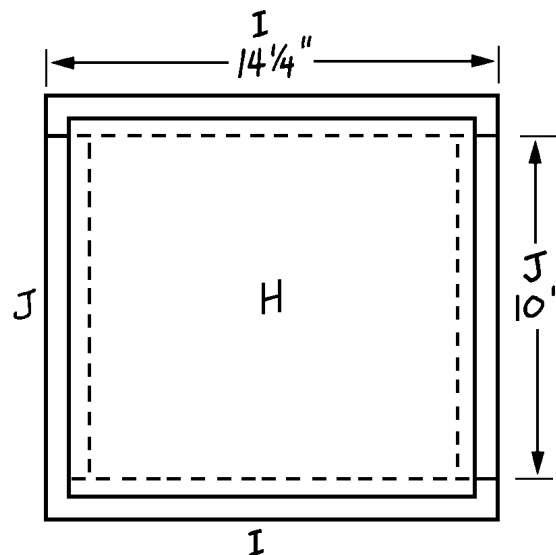

Figure 6
1. The cabinet doors are nothing more than pieces of $\frac{1}{4}$ "-thick plywood trimmed with borders of 1 x 3 pine. They're easy to make, but do be certain that the finished doors are perfectly square. Start by cutting two 12-1/4" x 13" cabinet door pieces (H) from $\frac{1}{4}$ "-thick plywood.
2. Cut four 14-1/4" long top/bottom trim pieces (I) from 1 x 3 pine.
3. Cut four side trim pieces (J) from 1 x 3 pine, each measuring 10" long.
4. Place two top/bottom trim pieces (I) and two side trim pieces (J) on a level surface, as shown in *Figure 6*. Center the cabinet door (H) over the trim pieces. There should be a 1"-wide border of trim visible along each of the four edges of the cabinet door (H). Glue the pieces together and insert $\frac{3}{4}$ " screws through the door (H) and into the trim pieces, spacing them about 4" apart.